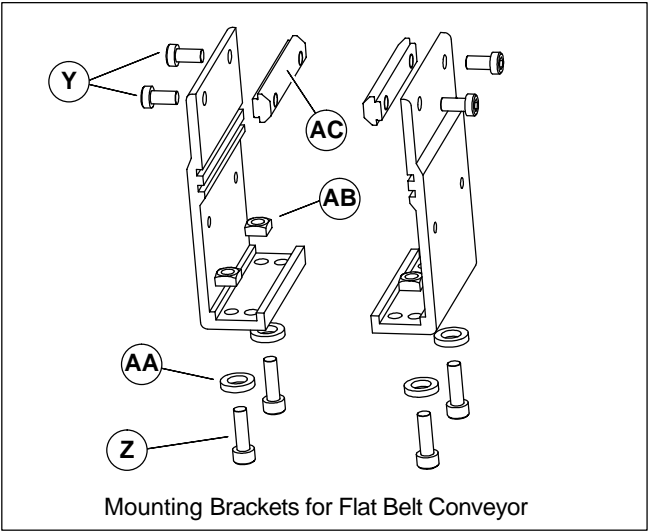
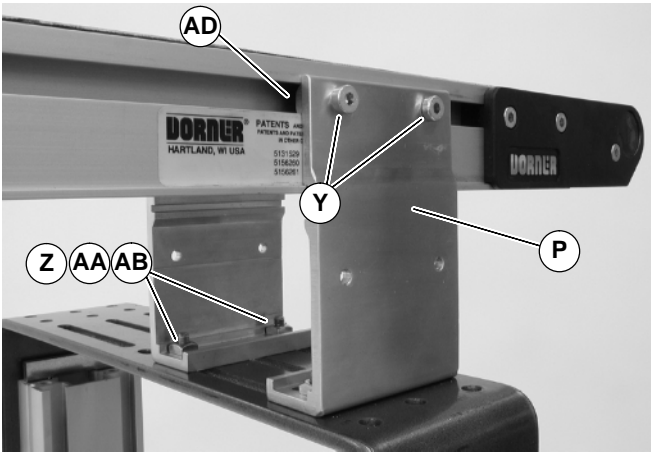

Figure 9
Figure 10
1. Locate brackets. Exploded views shown in Figures 9.
2. Remove screws (Y & Z of Figures 9), washers (AA), nuts (AB) and T-bars (AC) from brackets.
3. Insert T-bars (AC of Figures 9) into conveyor side slots (AD of Figure 10). Fasten brackets (P of Figure 10) to conveyor with mounting screws (Y).
4. Fasten brackets to support stand with mounting screws (Z of Figure 10), washers (AA) and nuts (AB).
5. Tighten screws (Y & Z of Figure 10) to 7 Nm.